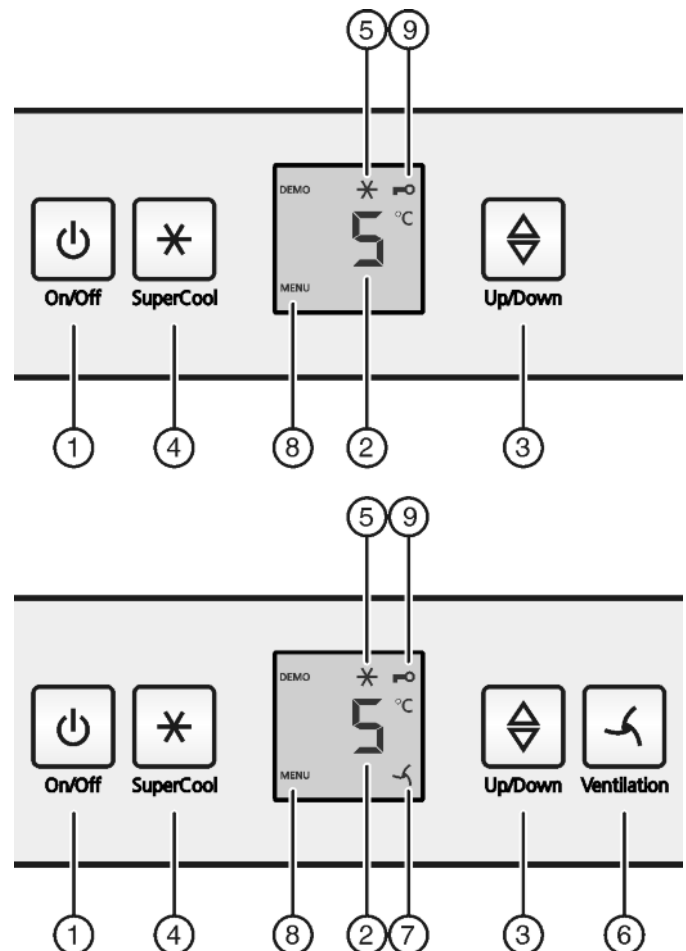

Fig. 2
- Press the On/Off button Fig. 2 (1).
- ▶ Press the SuperCool button *Fig. 2 (4)* for about 5 seconds.
- ▷ The Menu symbol is shown on the display, *Fig. 2 (8)*.
- ▶ Confirm briefly with the SuperCool button *Fig. 2 (4)*.
- ▷ The child lock symbol, *Fig. 2 (9)*, lights up on the display.
- ▶ Briefly press the On/Off button *Fig. 2 (1)*.
- ▶ Call up temperature function: press the setting button *Fig. 2 (3)*.
- ▶ Change the temperature in 1 °C steps: Press the setting button *Fig. 2 (3)* until the required temperature is indicated in the temperature display.
- ▶ Briefly press SuperCool button *Fig. 2 (4)*.
- ▷ The SuperCool symbol *Fig. 2 (5)* lights up in the display.
- ▷ The SuperCool symbol *Fig. 2 (5)* goes out in the display.
- Briefly press the fan button *Fig. 2 (6)*.
- ▷ The fan symbol *Fig. 2 (7)* shines.
- ▷ The fan symbol *Fig. 2 (7)* goes out.